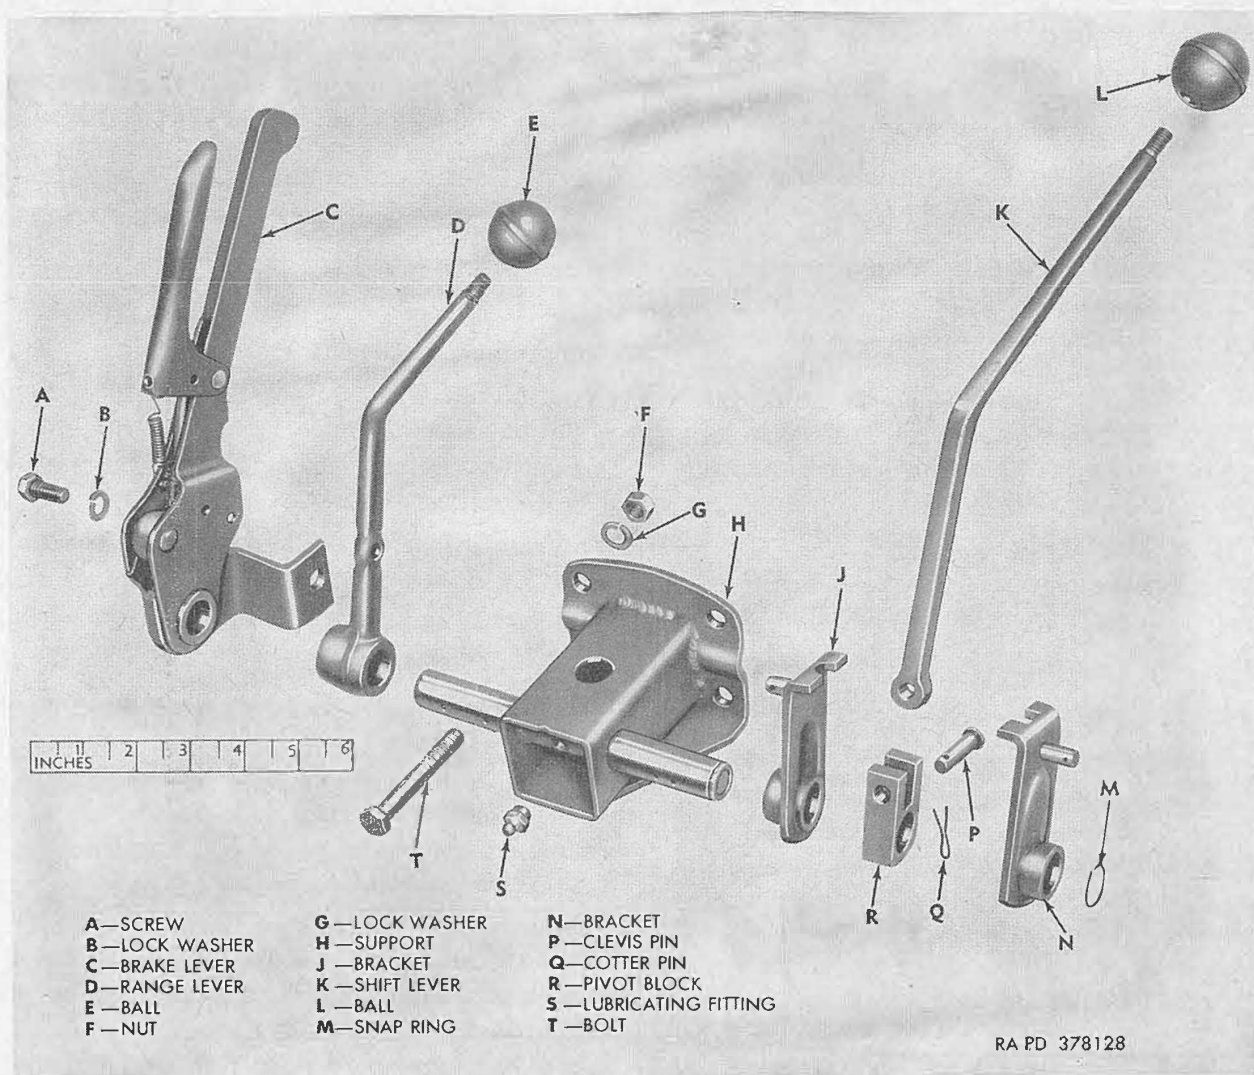

Figure 57. Brake and shift lever support assembly—exploded view.
*b. Disassembly (fig. 57).*
- (1) Remove hex-head screw (A) and lockwasher (B) securing sector to brake and shift lever support (H). Pull hand-